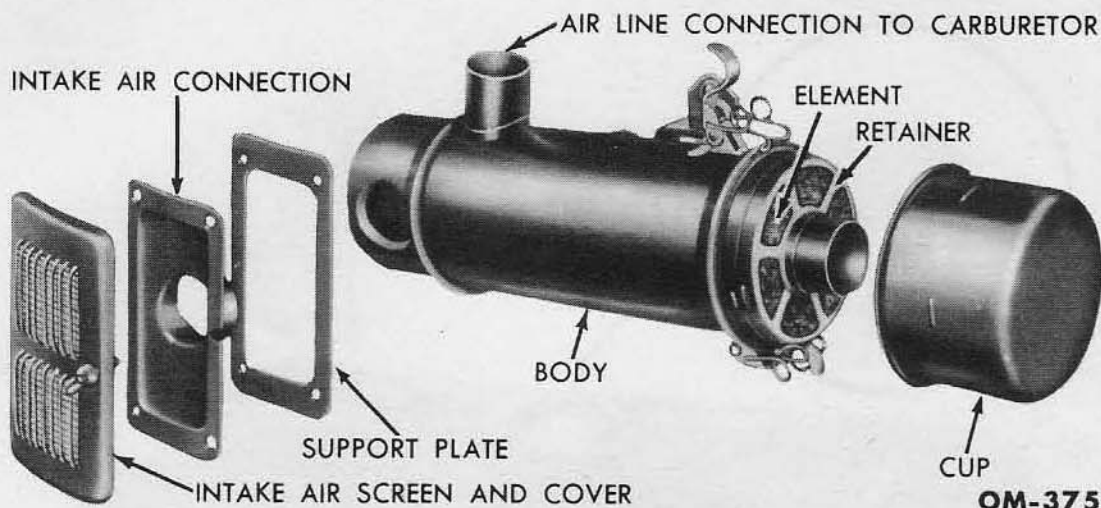

Fig. 44—Air Cleaner, Disassembled
a. Remove Air Cleaner. Remove the air line from the air cleaner to the carburetor. Remove the four screws which secure the intake air connection to the hood. Remove the cup from the bottom of the air cleaner. Remove the two bolts which secure the cleaner to the battery rack, and lift off the cleaner. The disassembled air cleaner is shown in fig. 44.